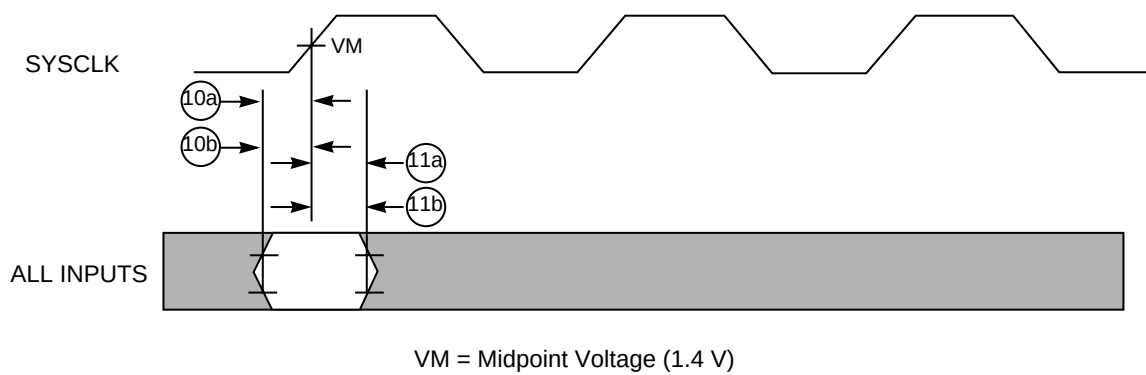
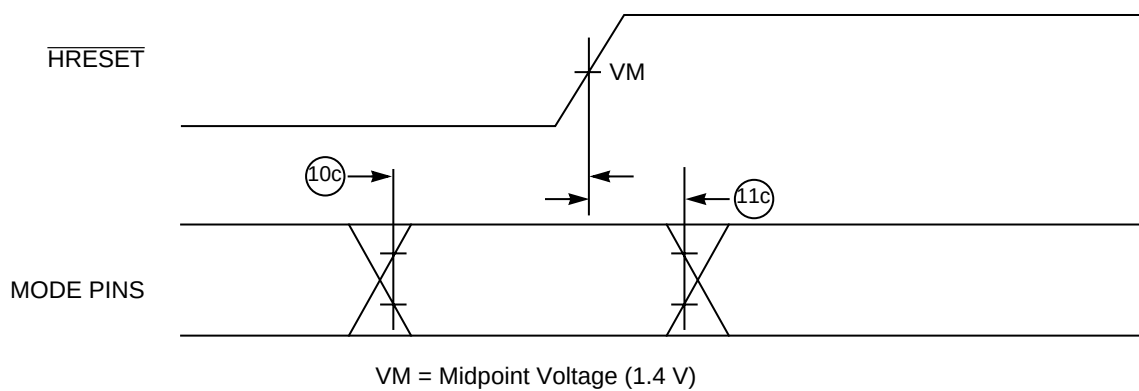

Figure 2. Input Timing Diagram
Figure 3. Mode Select Input Timing Diagram
Table 7 provides the input AC timing specifications for the 603 as defined in Figure 2 and Figure 3.
1. All input specifications are measured from the TTL level (0.8 or 2.0 V) of the signal in question to the 1.4 V of the rising edge of the input SYSCLK. Both input and output timings are measured at the pin (see Figure 2).
4. The setup and hold time is with respect to the rising edge of $\overline{\text{HRESET}}$ (see Figure 3). This specification is for configuration-mode only. Also note that $\overline{\text{HRESET}}$ must be held asserted for a minimum of 255 bus clocks after the PLL-relock time (100 μs) during the power-on reset sequence.
Figure 2 provides the input timing diagram for the 603.
Figure 3 provides the mode select input timing diagram for the 603.